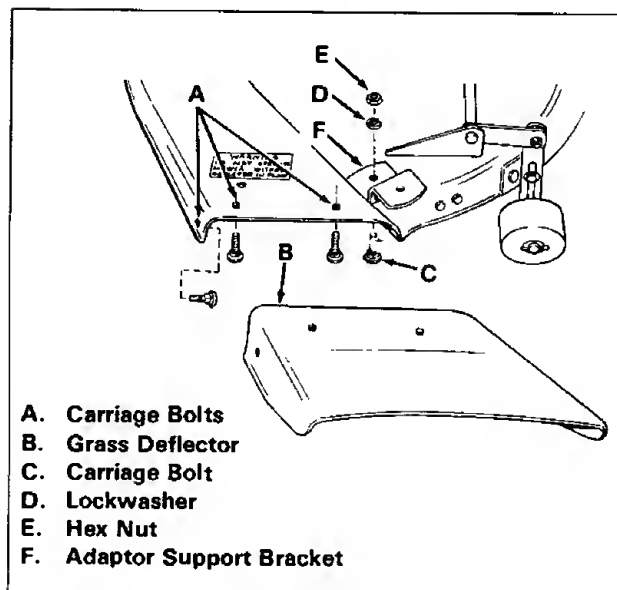

Figure 2
6. Remove the three carriage bolts (items A, figure 2) and hardware and remove the grass deflector (item B) from the mower. Two of the nuts and lockwashers will be used later, but the remaining hardware can be stored with the deflector.
9. ON 5 H.P. MODELS ONLY remove the two bolts which held the adapter. If desired the adapter support bracket (item F, figure 2) can be removed. Reinstall the grass deflector with the three original carriage bolts and large washers, lockwashers, and nuts (see figure 2).